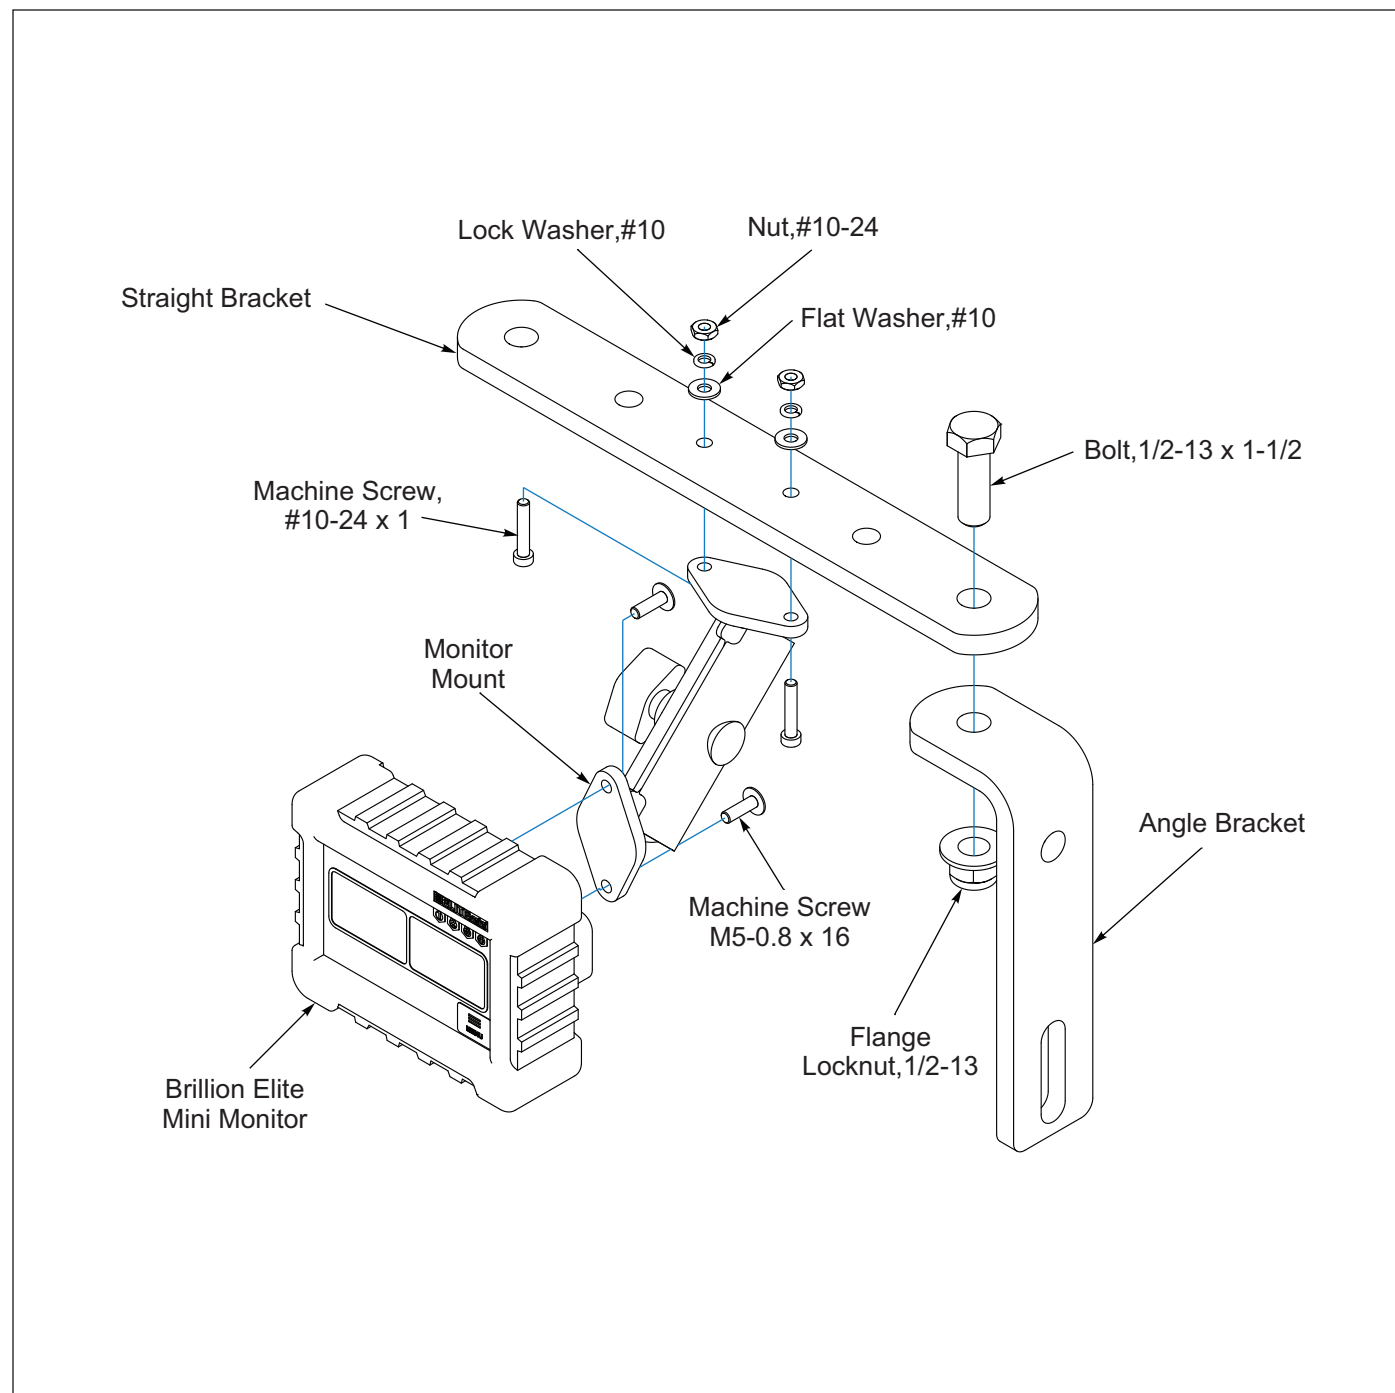

Figure 2-39: Brillion Elite Mini Monitor Tractor Installation - Optional
1. Mount Angle Bracket onto Tractor where convenient for the operator. **See Figure 2-39.**